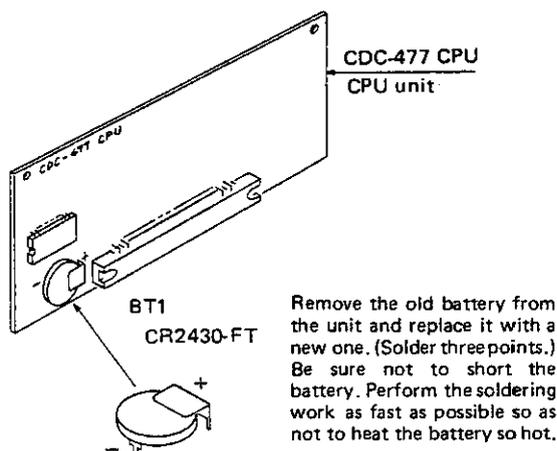

Figure 5.7 Replacement of a Lithium Battery
- (1) Remove the upper cover according to the instruction described in 5.1.
- (2) Remove the CPU unit CDC-477 according to the instructions described in 5.3.
- (3) Replace the old battery with a new one as shown in Fig. 5.7.
- (4) Remount the CPU unit CDC-477 into the right place. At this time, be sure to insert the unit surely.
- (5) Remount the upper cover.